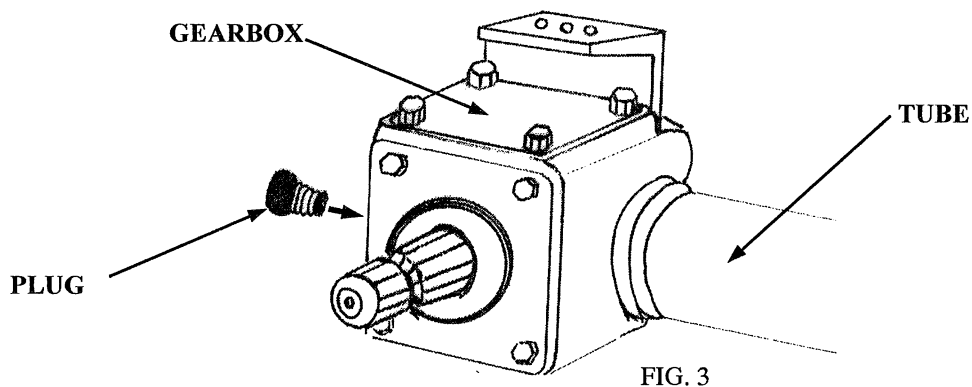

FIG. 3
- Check gearbox correct oil level. To proceed, remove the oil level plug located on one side of the box (see fig. 3). If needed to add oil, fill in through the oil level hole until starts running out of it.